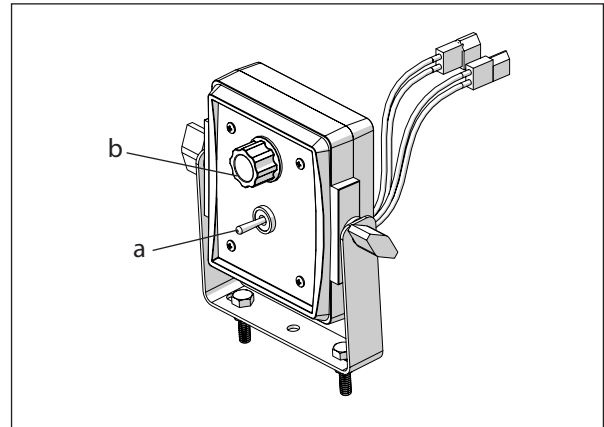

Figure 10: Control box operation
2. Turn on the pump using the on-off (a) switch on the control box and set the pressure by turning the pressure knob (b) on the control box (Figure 10). The pressure should be set to the optimal rate found when you calibrated the liquid applicator.